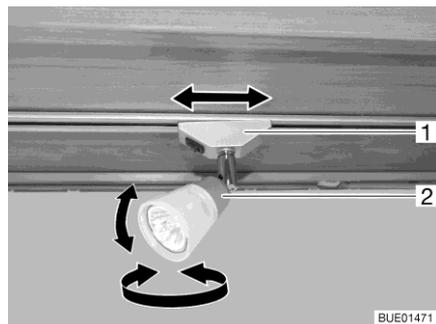
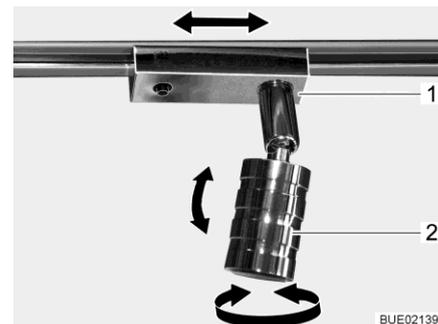

Fig. 82 Spotlight
Fig. 83 Spotlight (alternative)
- Grasp the housing (Fig. 82,2 or Fig. 83,2) and turn it.
- Grip socket (Fig. 82,1 or Fig. 83,1) and turn by approx. 45°.
- Grip socket (Fig. 82,1 or Fig. 83,1) and turn by 90°.